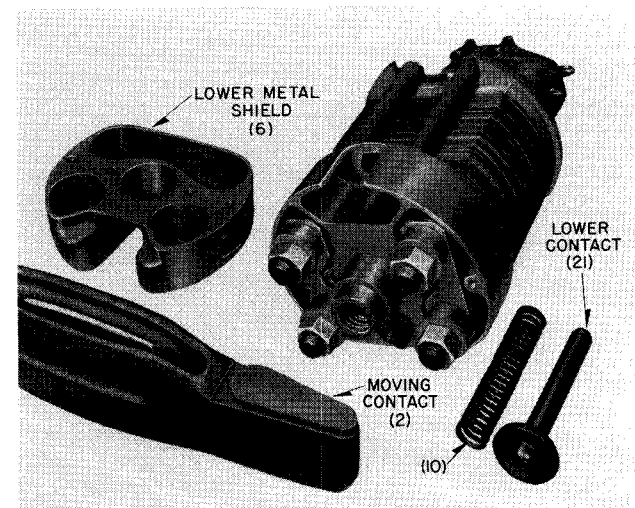

FIG. 19c. Final Disassembly
However, a piston spring compression tool is provided with each breaker order which will facilitate this operation. (See Fig. 19c.) This tool consists simply of a long threaded stud, a heavy steel washer, and a nut. With the lower contact (21) removed and the nut run down to the lower end of the tool, the upper end of the tool may be screwed into the upper spring seat. The nut (with washer on top) may now be advanced to pick up the lower spring seat. It is only necessary to raise the spring seat a small amount in order to relieve any pressure (transmitted through piston on the lower casting). The nuts and heavy springs on the four large stack tie rods may now be removed to allow the lower casting to be taken off. The tool with springs and spring seats may now be removed as a unit from the upper side of the lower casting—also the piston which is shown still hanging through the lower casting on Fig. 19c.